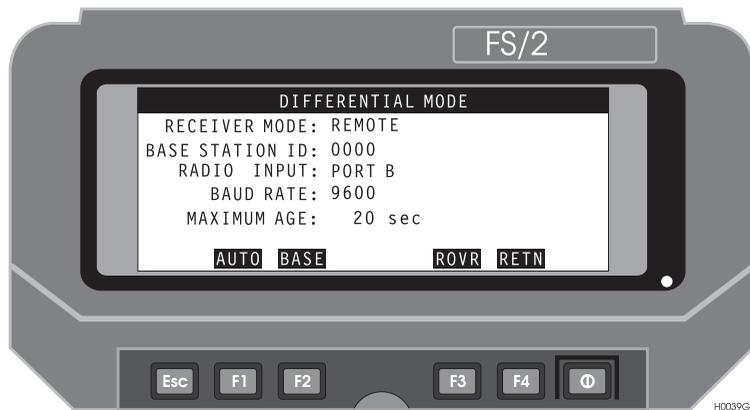

Figure 3.37: Differential Mode Screen
11. In the Receiver Setup screen, press F2 (MODE), calling the Differential Mode screen, Figure 3.37.